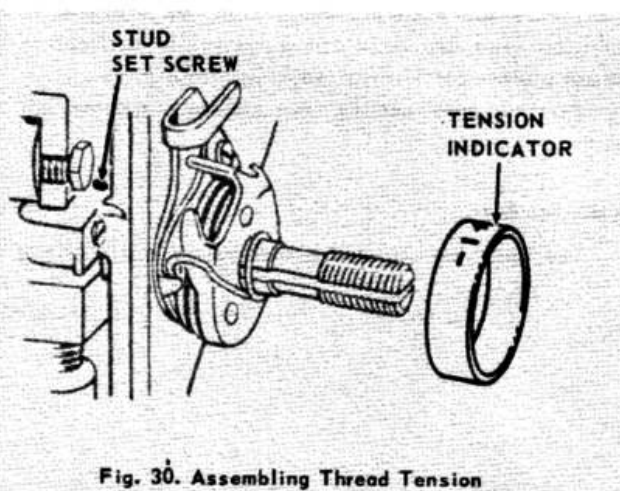

Fig. 30. Assembling Thread Tension
Remove arm top cover, loosen stud set screw, see Fig. 30, and remove entire tension assembly from machine.
Replace tension indicator, Fig. 30, on stud with open side out and indicator markings at top.
Set thread tension indicator at zero (0) tension. Turn hand wheel until stud set screw, Fig. 30, is accessible, loosen set screw and remove entire tension assembly.